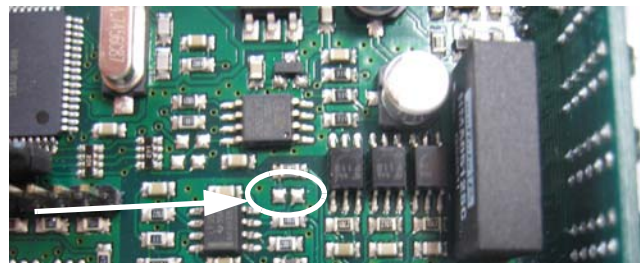

Figure 2-4. Soldered Jumper
- Locate the soldered jumper (SW4), on the circuit board. See Figure 2-4.